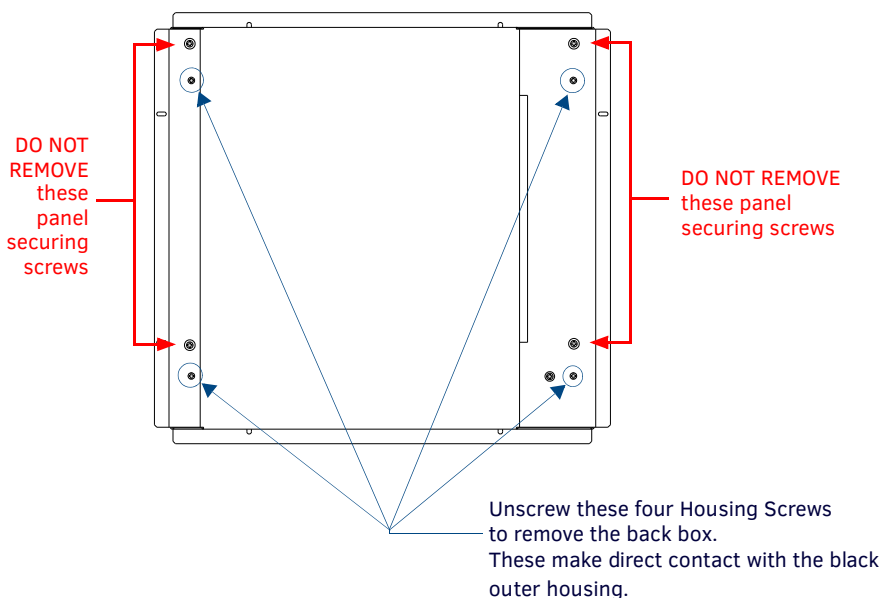

FIG. 22 Location of the securing screws on an NXD panel
5. Unscrew the four pan-head Housing Screws from the rear of the NXD unit (FIG. 22) and gently remove the outer housing. These four screws secure the back box to the internal panel casing.